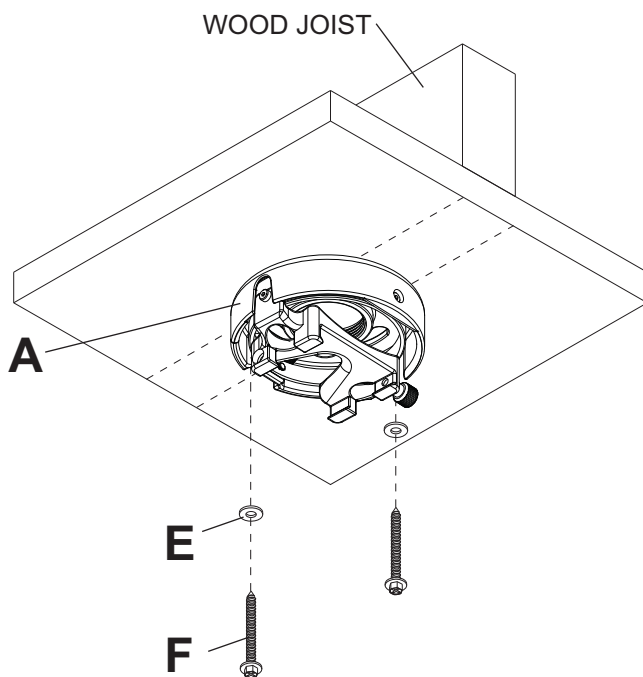
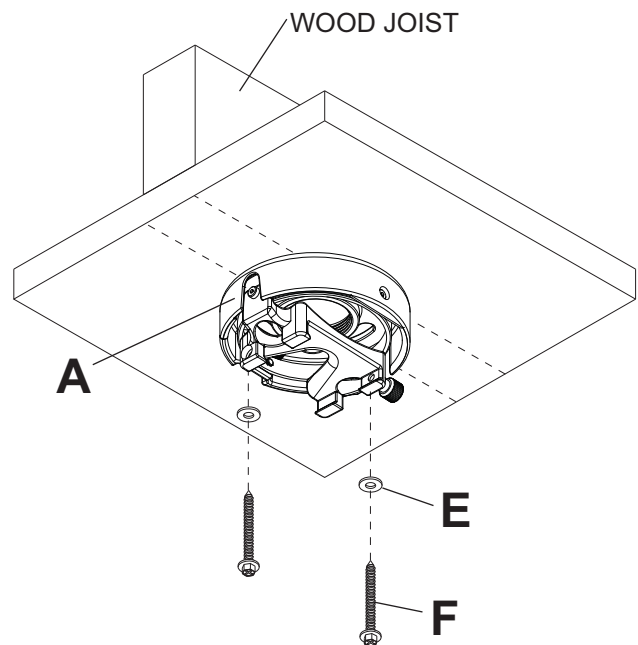

fig. 2.1
fig. 2.2
2 Place projector mount assembly (A) on ceiling as a template and mark the center of the two mounting holes. Make sure that the mounting holes are in the center of the wood joist. Drill two 5/32" (4mm) dia. holes to a minimum depth of 2.5" (64mm). Attach projector mount assembly (A) with two #14 x 2.5" (6mm x 65mm) wood screws (F) and two flat washers (E) as shown in **figure 2.1** or **figure 2.2** depending on joist orientation.